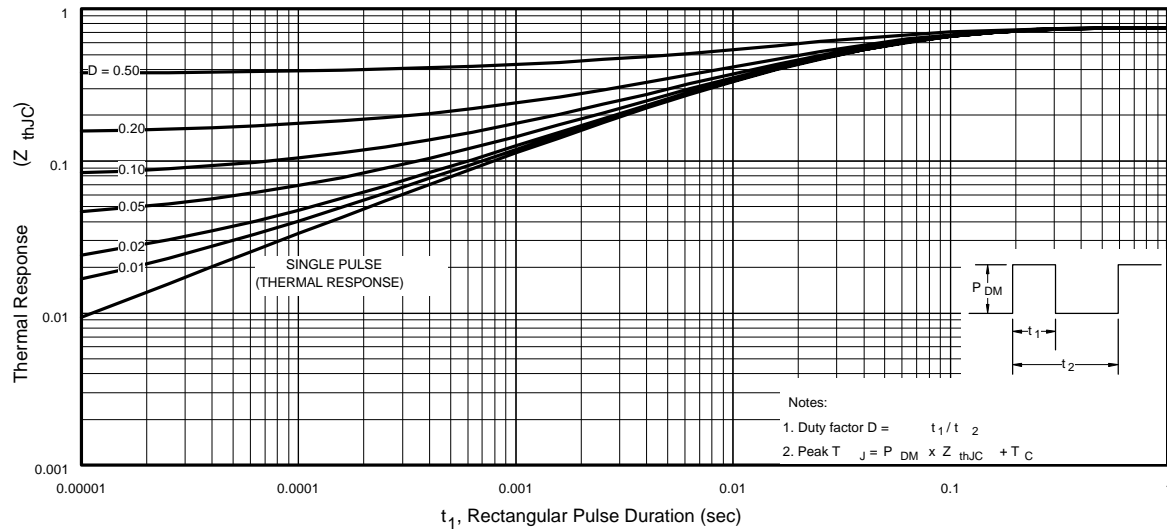

Fig 11. Maximum Effective Transient Thermal Impedance, Junction-to-Case
- ① Repetitive rating; pulse width limited by max. junction temperature. (See fig. 11)
- ② Starting $T_J = 25^\circ\text{C}$, $L = 2.2\text{mH}$